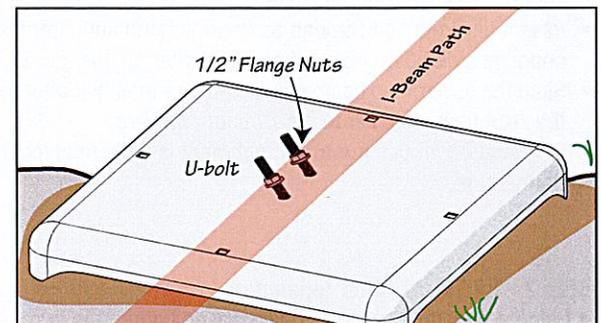

Fig. 3-2
- Attach two flange nuts over the u-bolt, just enough to prevent the u-bolt from coming loose during pan installation. See Fig. 3-2.